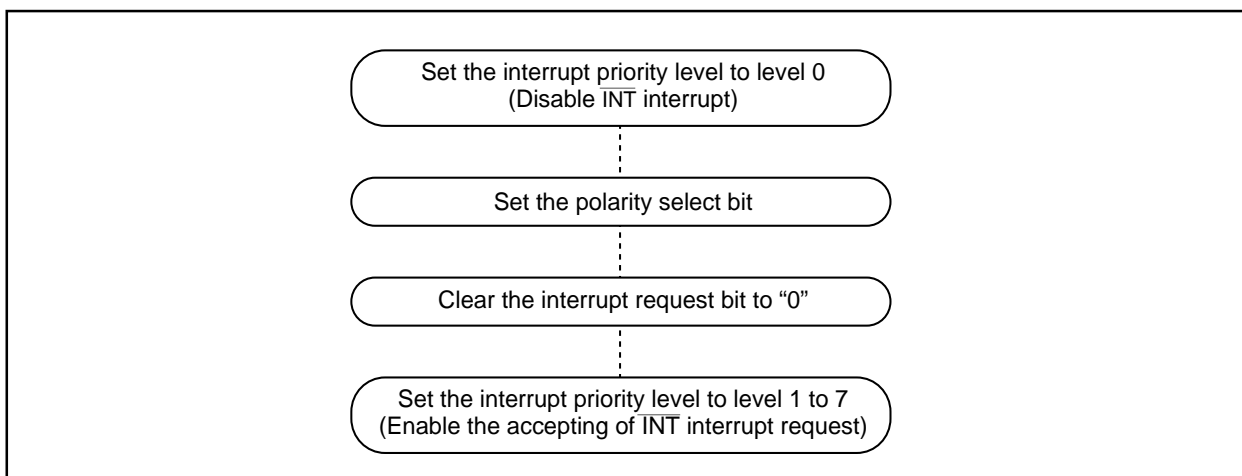

Figure 27.2 Switching condition of  $\overline{\text{INT}}$  interrupt request
- When the polarity of the INT0 to INT5 pins is changed, the interrupt request bit is sometimes set to "1". After changing the polarity, set the interrupt request bit to "0". Figure 27.2 shows the procedure for changing the  $\overline{\text{INT}}$  interrupt generate factor.